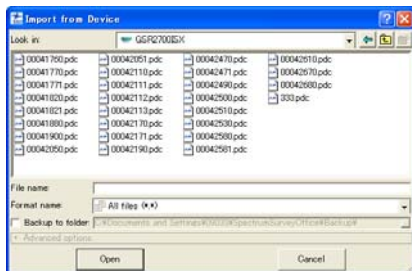

Figure 3-25. Import From Sokkia receiver
- On the **Import from Device** dialog box, enter the file name as “file.pdc” and select the file type (Figure 3-25).
- On the **Import from Device** dialog box, enter the file name as “file.txt” and select the file type (Figure 3-25).